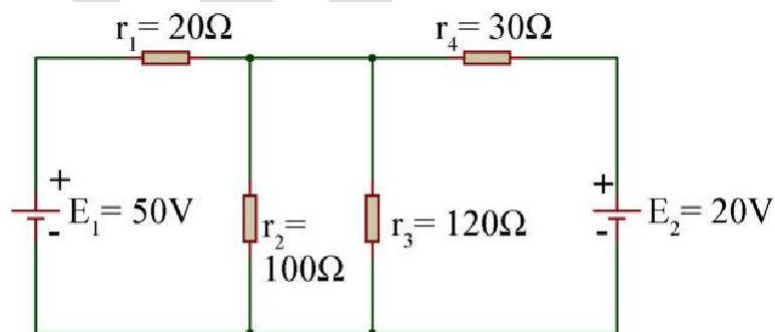

Figure: 1
**Example 2:** Using Nodal method, find the current through resistor  $r_2$  (Figure 1).